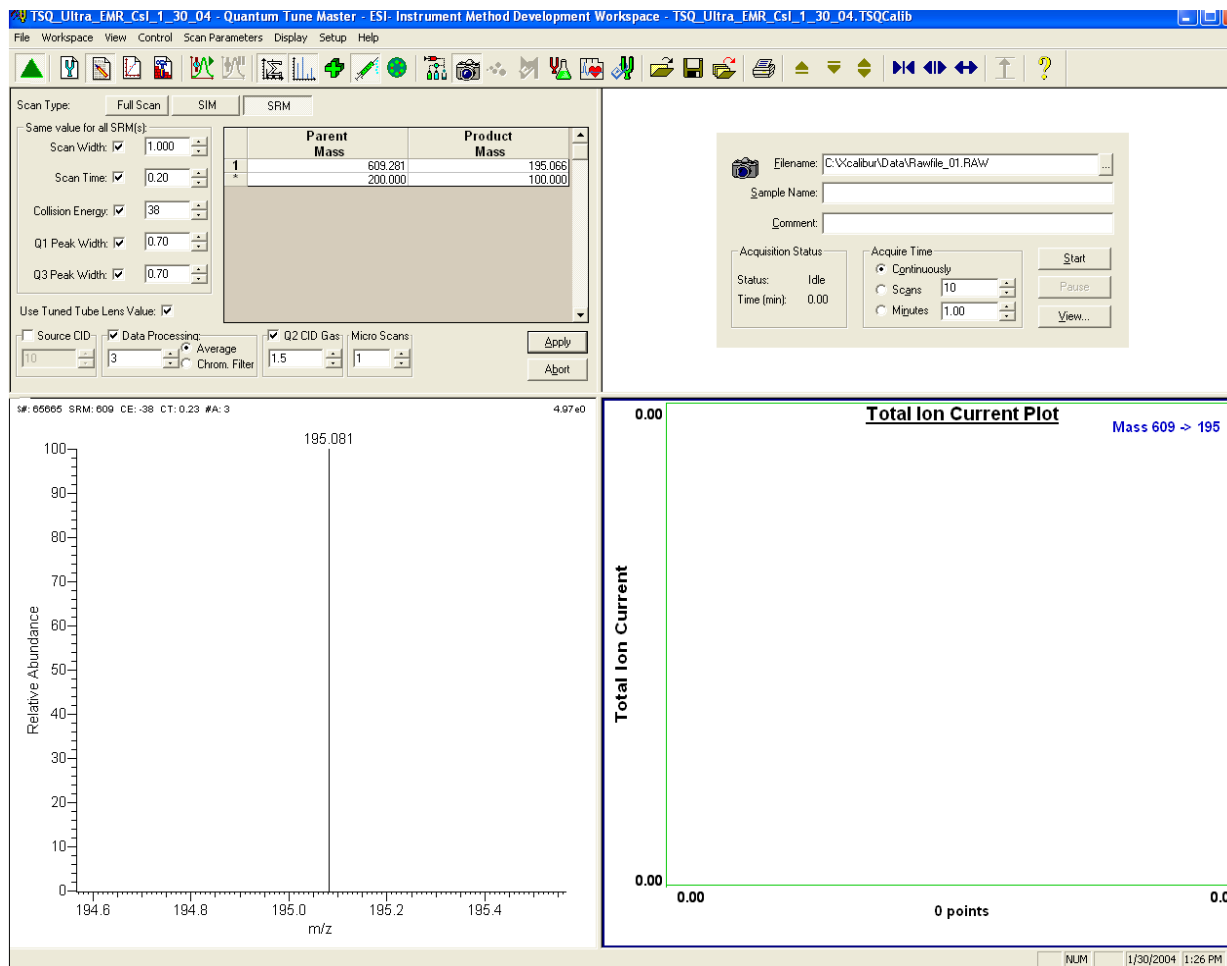

Figure 5-8. Instrument Method Development workspace, showing SRM scan type
7. On the Control / Scan Mode toolbar, click on the Display TIC button to begin recording the total ion current in the Graph view in the bottom right corner of the workspace. See Figure 5-8.